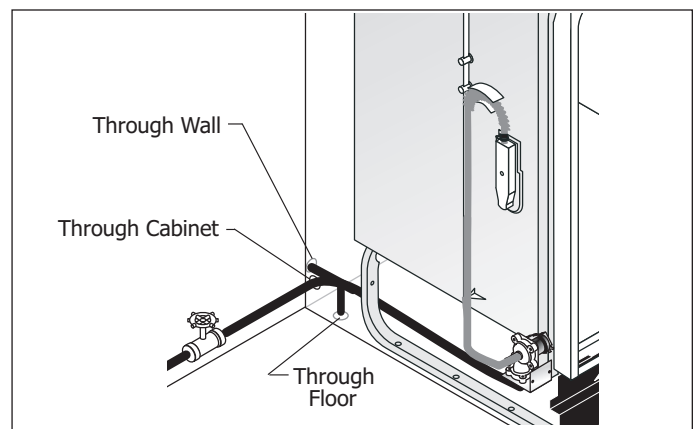

Figure 2-12.
2. Route water line to water inlet valve as shown in Figure 2-12.
5. If water inlet valve clogs, make sure water supply is off. Remove four (4) screws at inlet end of valve and clean filter screen.